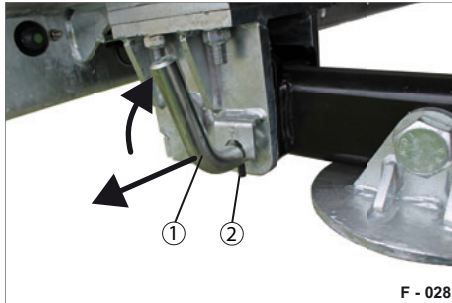

Fig. 63 Unlocking folding supports
- ▶ Rotate the socket pin (Fig. 63/1). The pin (Fig. 63/2) is released.